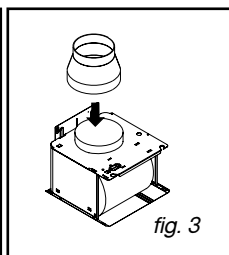

fig. 3
– Remove the filter cartridges (F/fig. 3).
– Screw in the bottom two screws (E/fig. 3).
– If a 125 mm flue is being installed, use the adapter provided (fig. 3).
– Slide one end of the flue over the deflector and the other end over the motor outlet (fig. 3).
– Prepare your ventilation shaft, taking care to face the vents upward so that they are visible (B/fig. 3).
– Attach the upper portion of the chimney (C/fig. 3) on the metal smoke deflector (A/fig. 3) using the two screws (F/fig. 3).